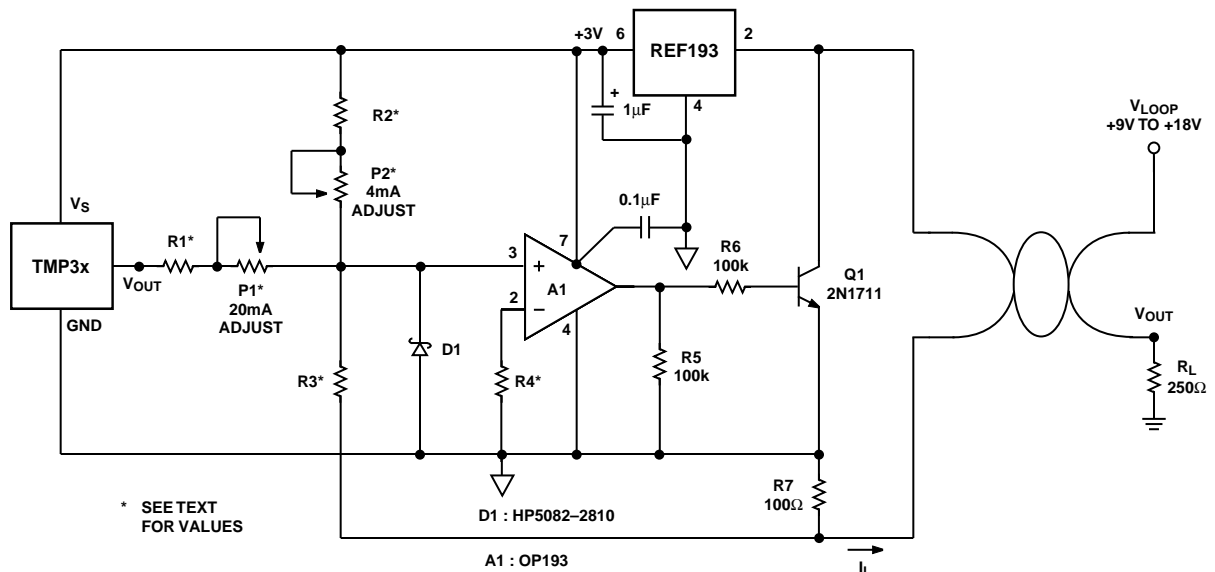

Figure 25 A Temperature to 4-to-20 mA Loop Transmitter
A circuit which transmits temperature information in this fashion is illustrated in Figure 25. Using a TMP3x as the temperature sensor, the output current is linearly proportional to the temperature of the medium. The entire circuit operates from the REF193’s +3 V output. The REF193 requires no external trimming for two reasons: (1) the REF193’s tight initial output voltage tolerance and (2) the low supply current of TMP3x, the OP193, and the REF193. The entire circuit consumes less than 3 mA from a total budget of 4 mA. The OP193 regulates the output current to satisfy the current summation at the non-inverting node of the OP193. A generalized expression for the KCL equation at the OP193’s Pin 3 is given by: